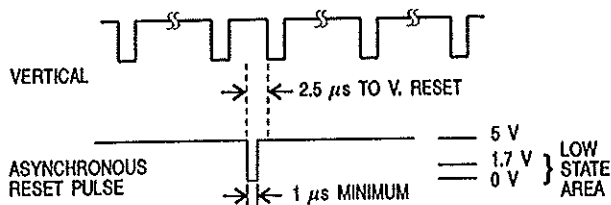

Figure 7. Timing Diagram, Asynchronous Vertical Reset
An asynchronous reset is initiated when pin 6 of the AUX connector is pulled low (below 1.7 volt). The vertical interval of the Camera then resets 2.5 microseconds later (figure 7). Note that the minimum allowable width of the reset pulse is 1 microsecond.
Captions accompanying the waveform in figure 8 more fully describe their relationships. For a detailed view of the 2.5 μ s delay between application of the asynchronous reset pulse and the start of a new vertical drive see figure 7. It expands this timing area to show both the 2.5 μ s delay and the required 1 μ s minimum duration for the asynchronous reset pulse.
- ① **ASYNCHRONOUS RESET PULSE** When this pulse is applied to pin 6 of J21, on the camera rear panel, the camera internal vertical drive resets. See waveform 2. (Though not detailed on this figure, a delay of 2.5 μ s occurs between application of the reset pulse and internal vertical drive being reset. See figure 7 for an expanded view.)
- ② **CAMERA INTERNAL VERTICAL DRIVE RESET.** When the camera internal vertical drive is reset, two time periods follow during which a strobe light may be triggered to illuminate the scene. In frame mode, both fields will be integrated by the sensor when this strobe occurs during either period.